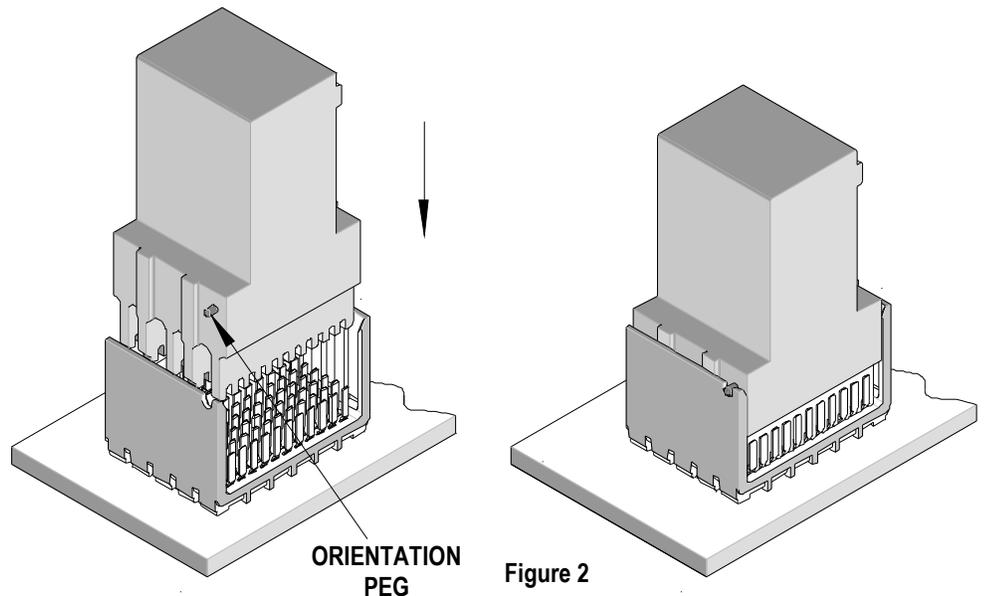

Figure 2
2. Insert the application tool into the header assembly with the orientation peg on the tool entering the #1 circuit notch at the top of the connector housing. See Figure 2.